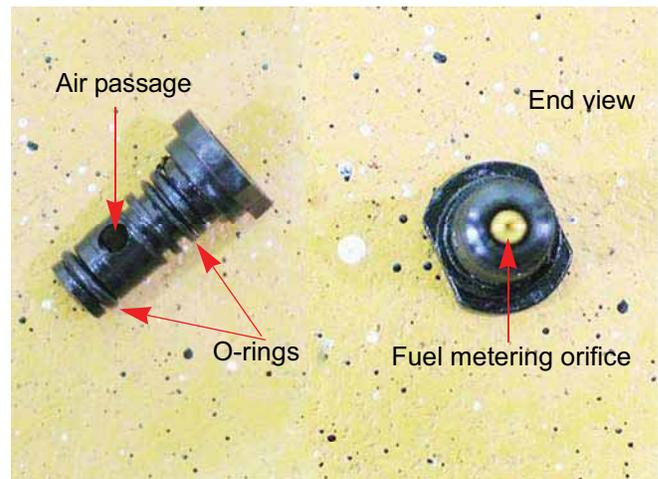

Figure 4.35
- Examine the metering plug: See Figure 4.35.